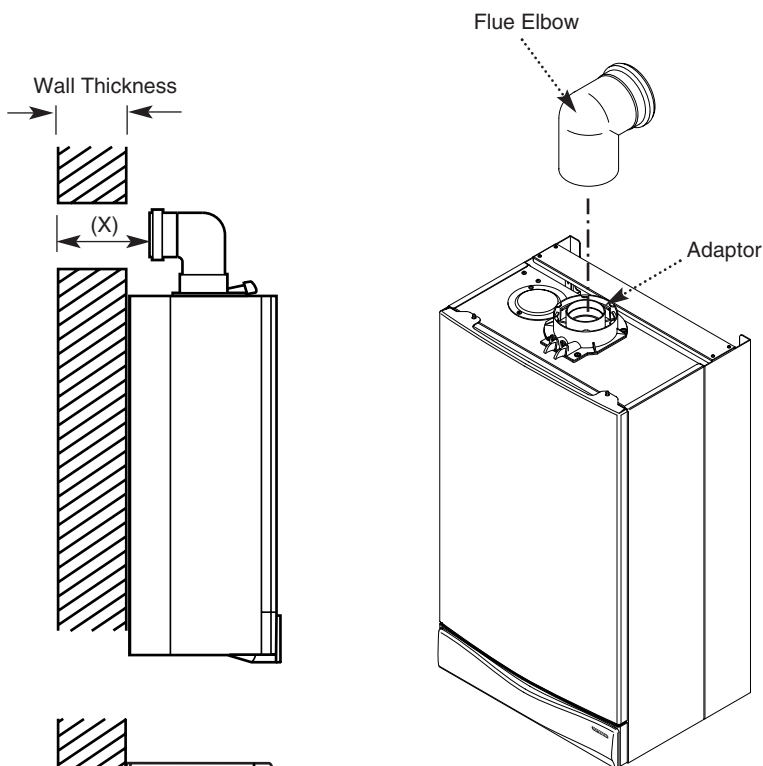

Fig. 17
2. Locate the flue elbow on the adaptor at the top of the boiler. Set the elbow to the required orientation (Fig. 17).